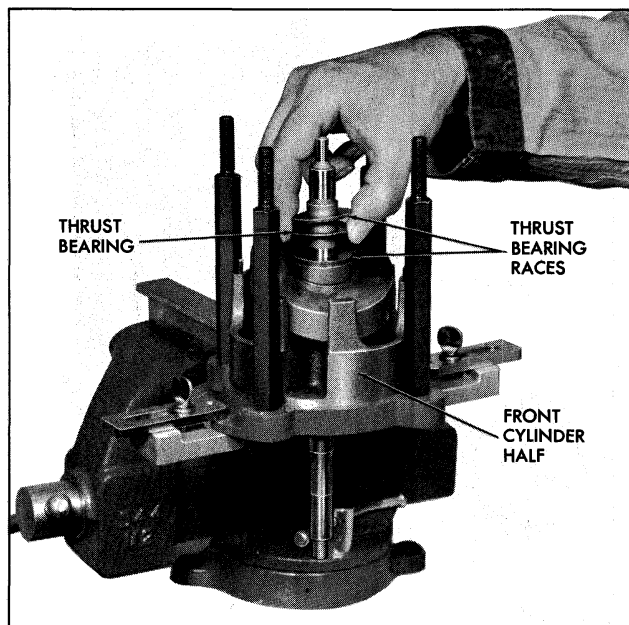

Fig. 5-19 Mainshaft Thrust Bearing Installed
4. Stack a ZERO thrust race, a new thrust bearing and a second ZERO thrust washer. Assemble this "sandwich" of parts to REAR of compressor main shaft so it rests on hub of swash plate (Fig. 5-19).